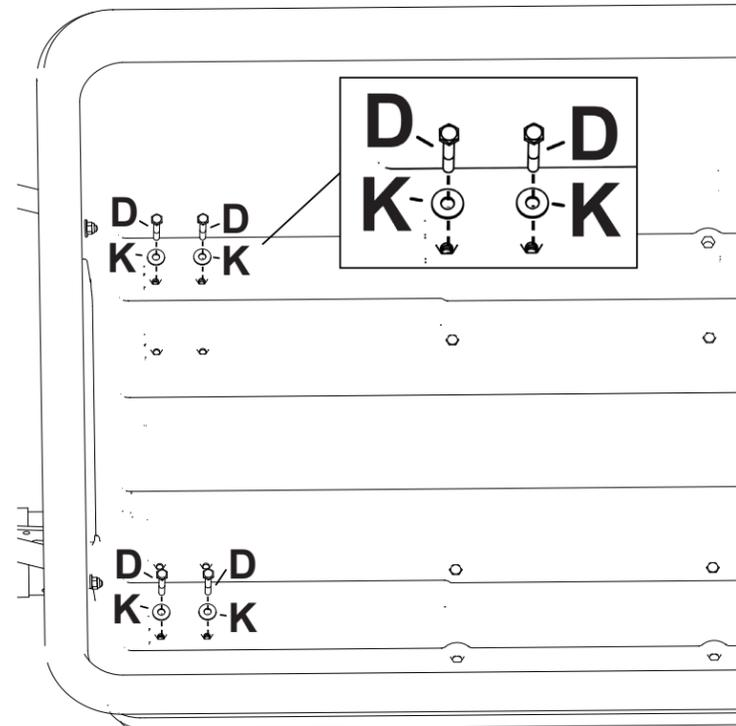

Figure 11
STEP 3 (SEE FIGURE 11): Install two 1/4-20 x 1-3/4" bolts (D) and washers (K) into the two outer holes on the front of the cart bed. Make sure the bolts go through the bed, latch stand plate, latch stand bracket, and handle.
STEP 4 (SEE FIGURE 11): Repeat on the other side. fully tighten hardware.